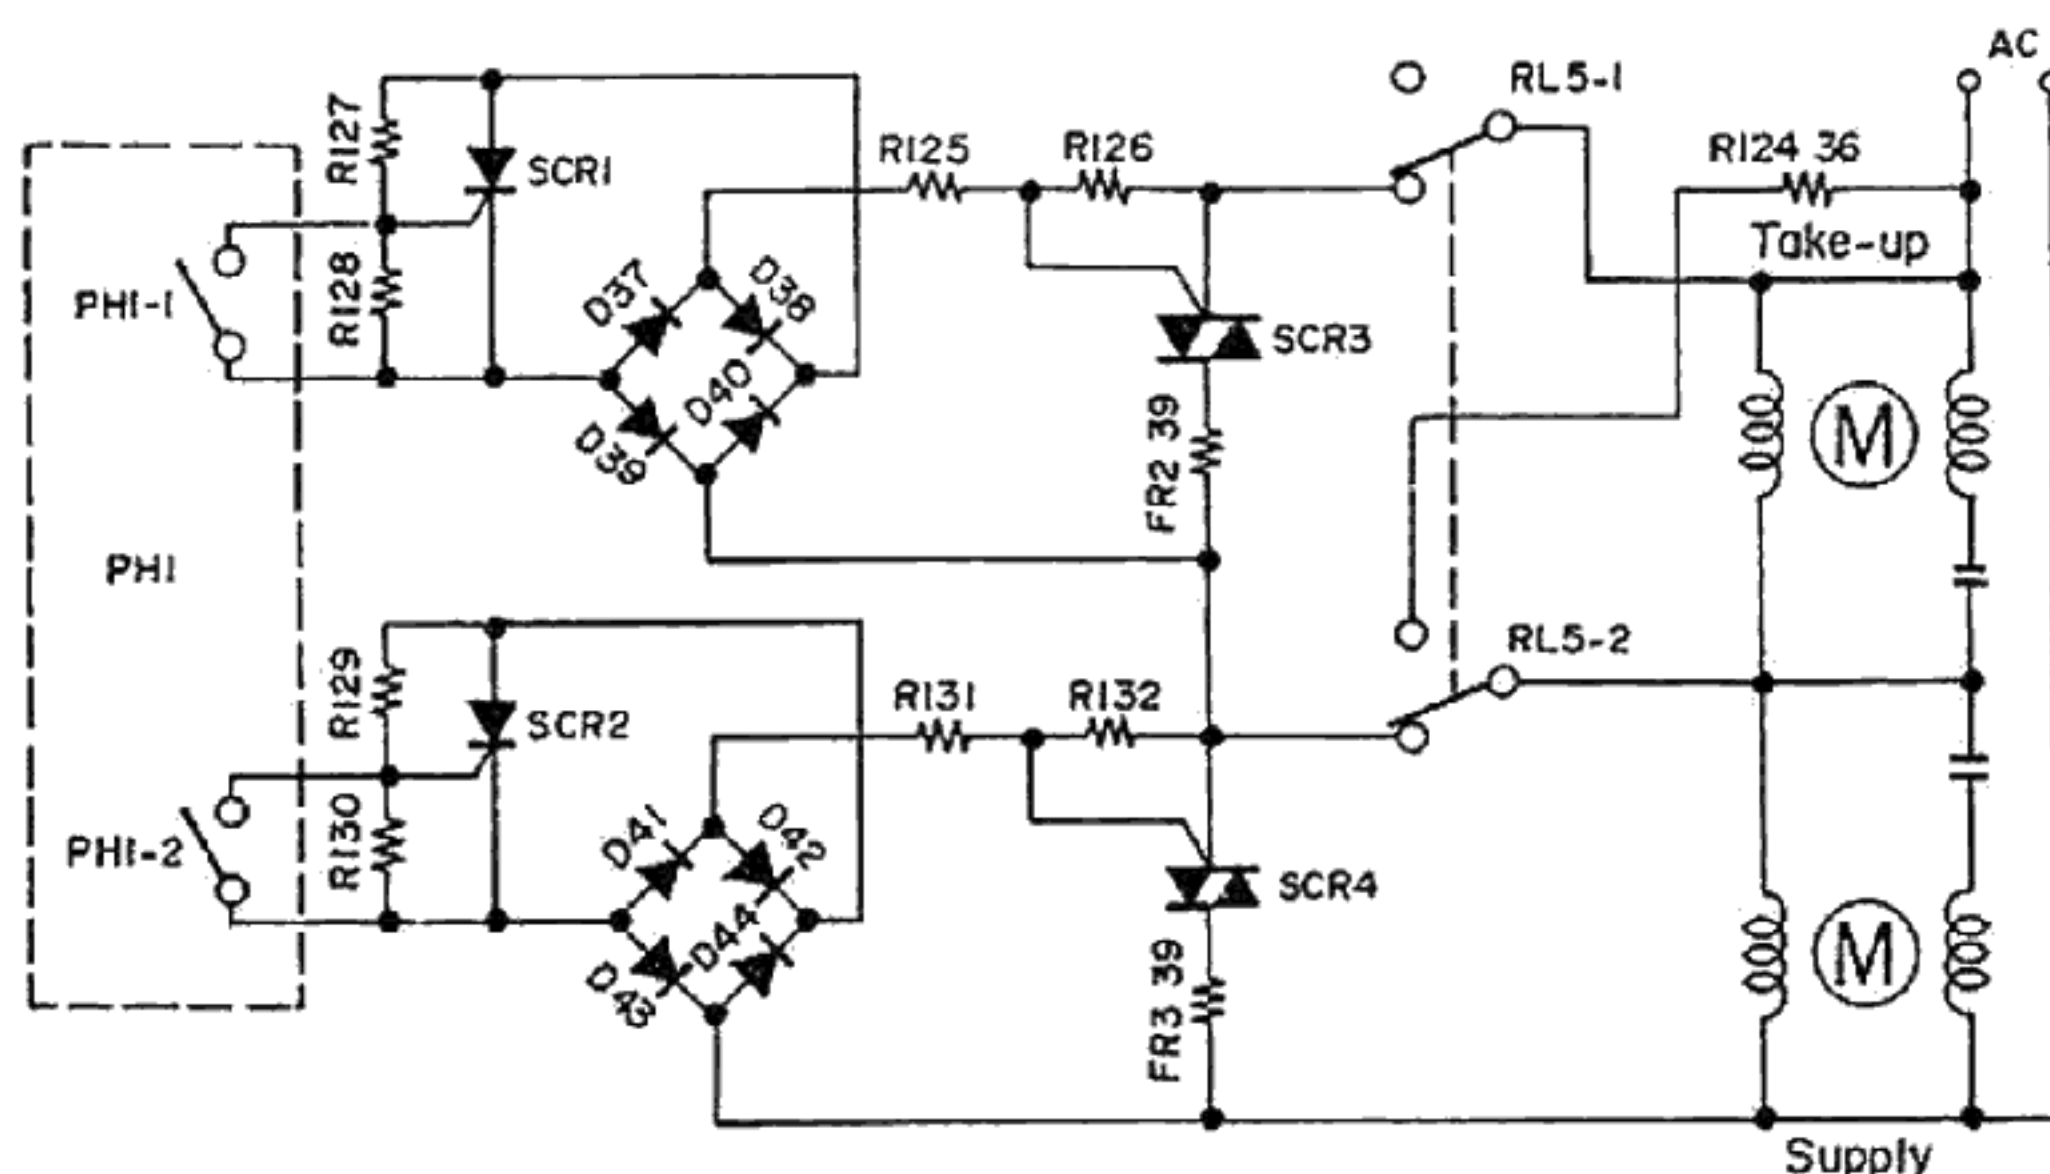

Fig. 30
"H" enters the base of TR42 through R115 to turn TR42 ON and RL5 ON. Fig. 30 shows the condition when RL5 is ON. R124 36 ohms so far attached is disconnected from the take up reel motor. Suppose the signal of IC2 (22) (reel motor control) is in "L". TR40 is OFF via R108, and TR38 is turned OFF via R104. TR38 collector will be "H". The base of TR49 will be "H" through R106 to turn TR39 ON, i.e., the switch of PH1-2 is ON.